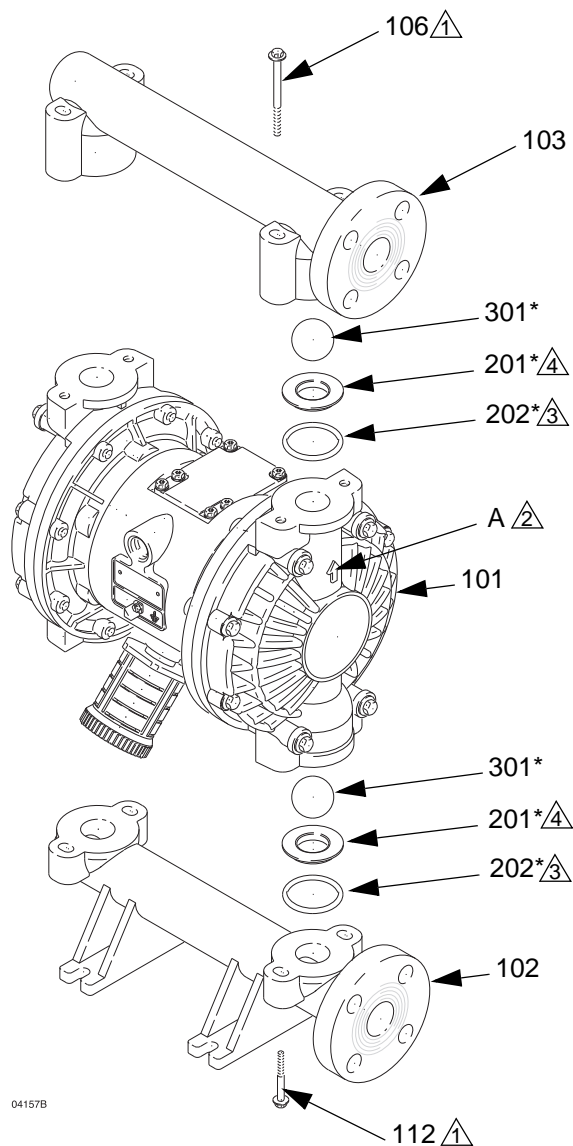

Fig. 11
3. Using a 10 mm socket wrench, remove the four bolts (106) holding the outlet manifold (103) to the fluid covers (101). See Fig. 11.
4. Remove the seats (201), balls (301), and o-rings (202) from the manifold.
2. Reassemble in the reverse order, following all notes in Fig. 11. Be sure the ball checks **exactly** as shown. The arrows (A) on the fluid covers (101) **must** point toward the outlet manifold (103).
- 2  Arrow (A) must point toward outlet manifold (103).
- 4  Beveled seating surface must face the ball (301).